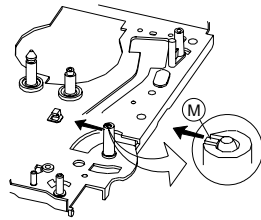

Fig. 16
- On the bottom of the drive mechanism, disengage clamp (M) (Fig. 16) and remove the brake band with the tension arm (Pos. A2500).